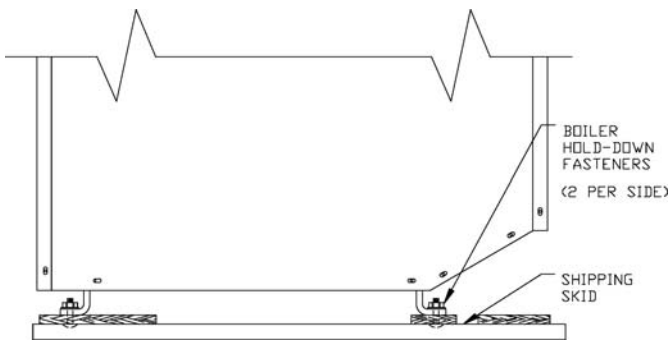

Figure 3: Removal From Skid
- D. Remove four (4) boiler hold-down fasteners. See Figure 3.